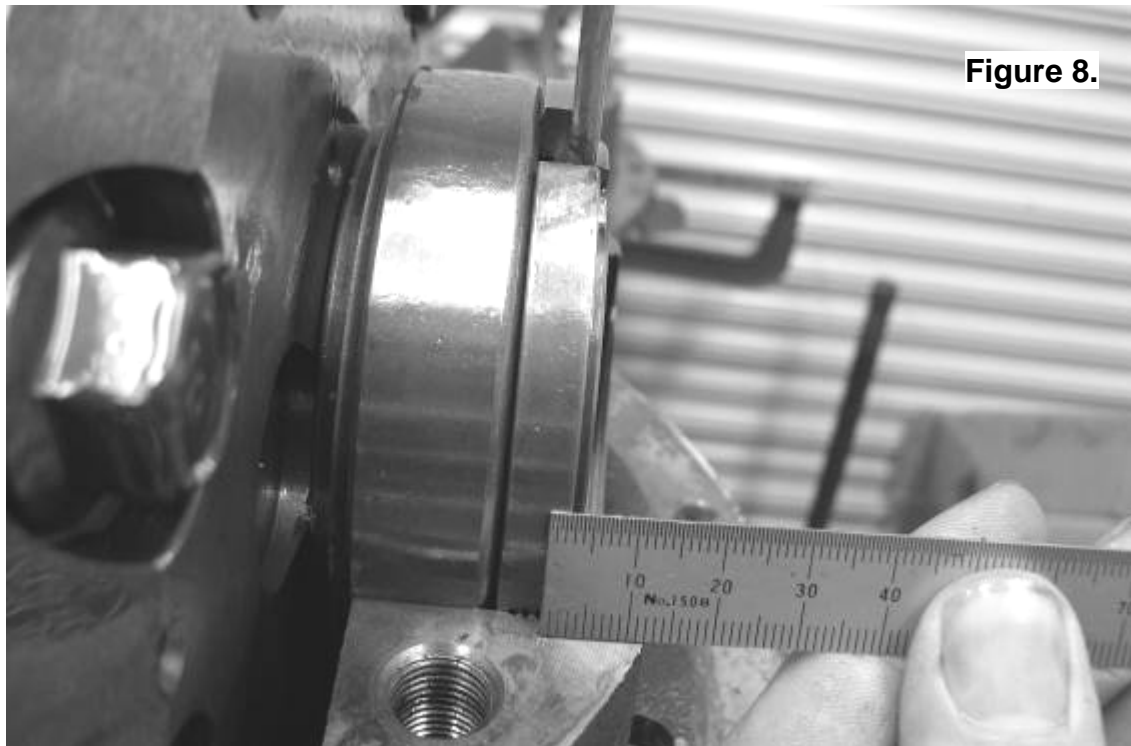

Figure 8.
- Measure the distance from the outside edge of the left hand bearing cap, to the centerline of the seal housing tube as shown in Fig 8. This measurement is required for positioning the hole. As can be seen, in this example the distance is approximately 12mm.